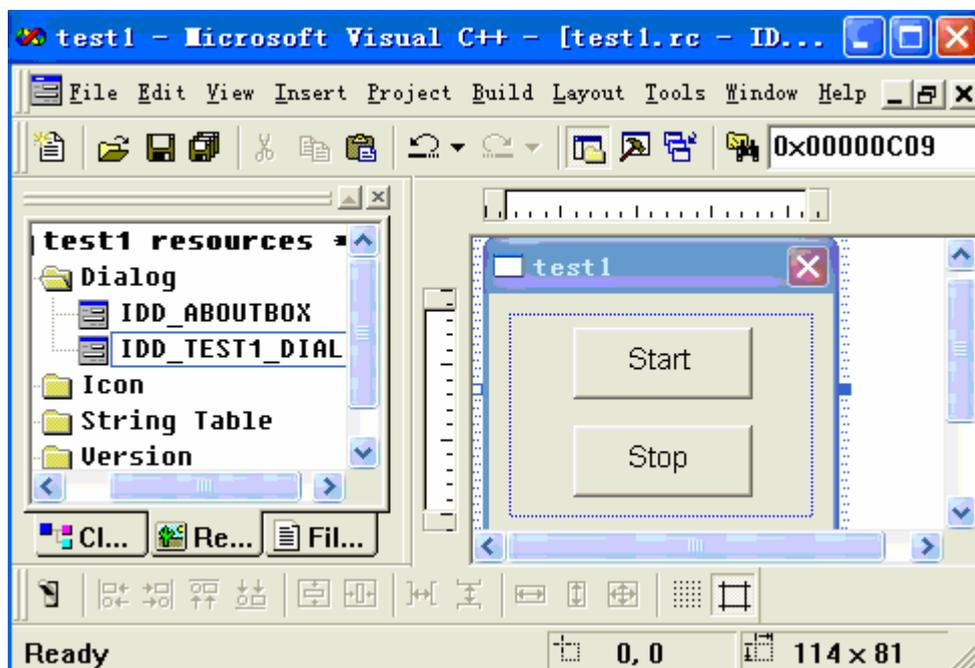

Figure 5-6 Add 2 buttons
(7) Add 2 buttons “START” and “STOP” in the dialog page. Set “START” button name as IDC_BUTTON_Start, and “STOP” button name as IDC_BUTTON_Stop. See figure 5-6;